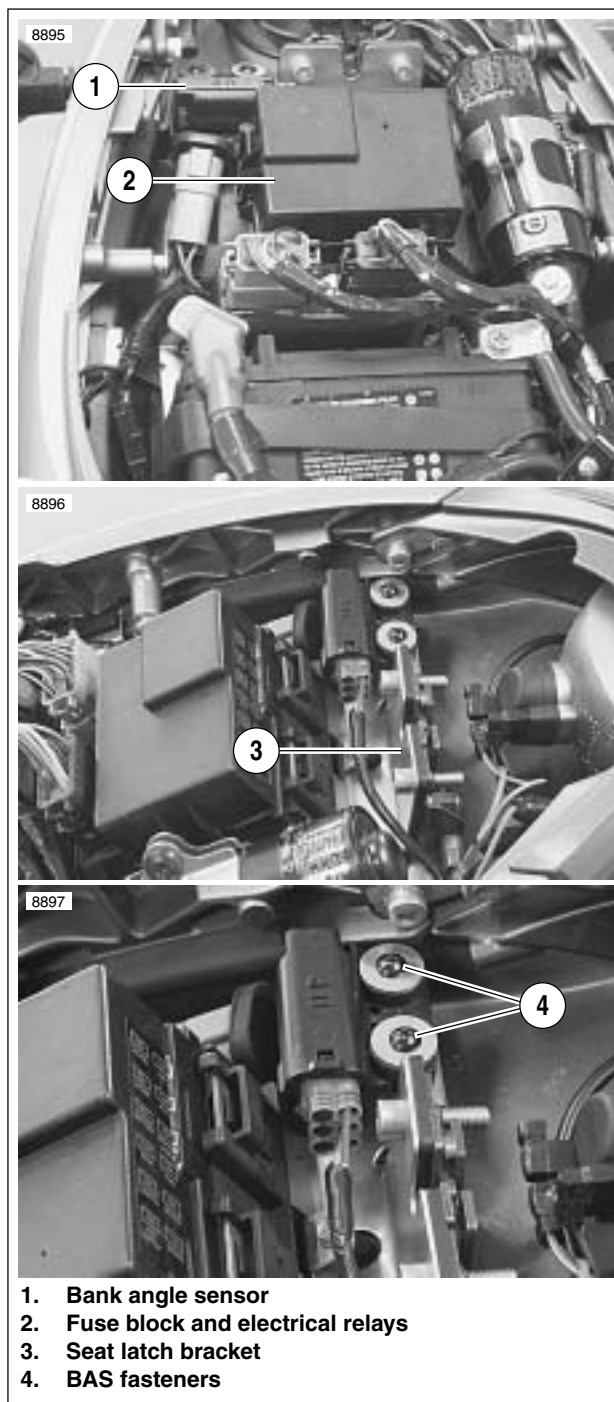

Figure 4-77. Bank Angle Sensor Location
3. See Figure 4-77. Remove screws and washers to detach sensor from seat latch bracket.
1. See Figure 4-77. Install bank angle sensor connector [134].